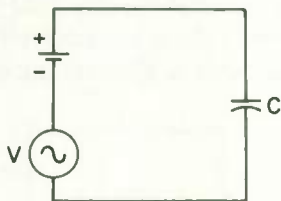

Fig. 16
3. An a-c generator and a d-c battery are both connected in series with a capacitor, as in Fig. 16. Only (a) _____ current will flow because the capacitor blocks the (b) _____ current.